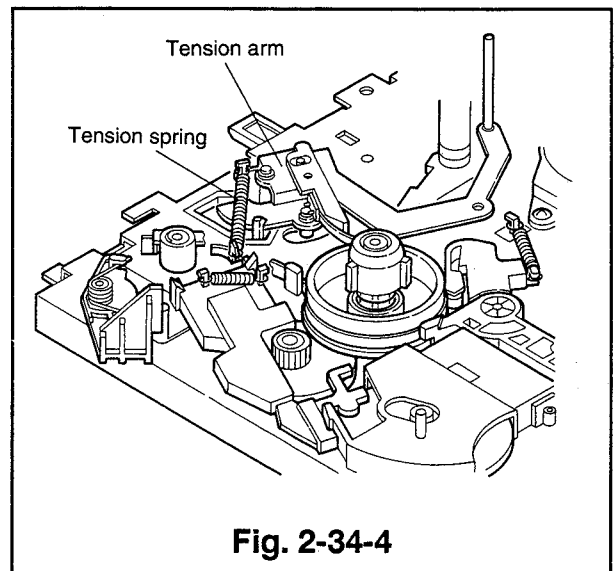

Fig. 2-34-4
- ② Turn the deck the right side up and detach the tension spring. (Refer to Fig. 2-34-4.)
- ③ Remove the charge assembly.
- ⑨ Hook the tension spring in the position shown in Fig. 2-34-4.
- ⑩ Install the charge assembly.